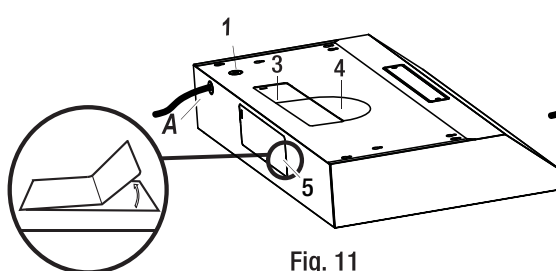

Fig. 11
- Choose the venting hole to remove for your installation type. Use the top holes (3 & 4) for a top venting installation and the back hole (5) for a back venting installation. See Installing the damper section for more details.
- Carefully remove the cover (3, 4 or 5) of the appropriate venting hole using a flat head screwdriver or needle nose pliers (refer Fig. 11). Be careful not to damage any internal components when removing the knockouts and not to leave any debris inside the range hood (A).